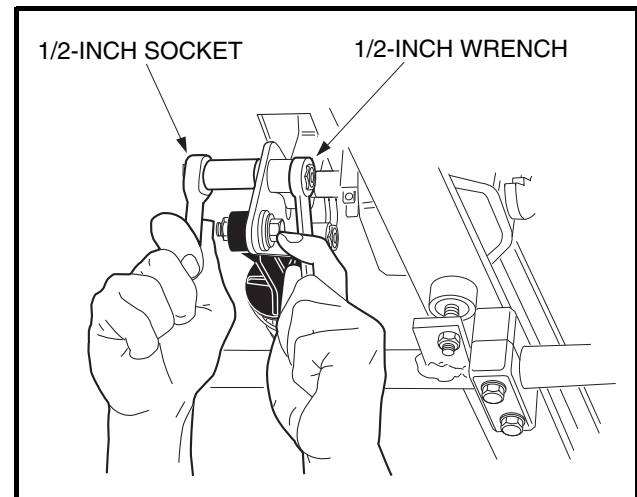
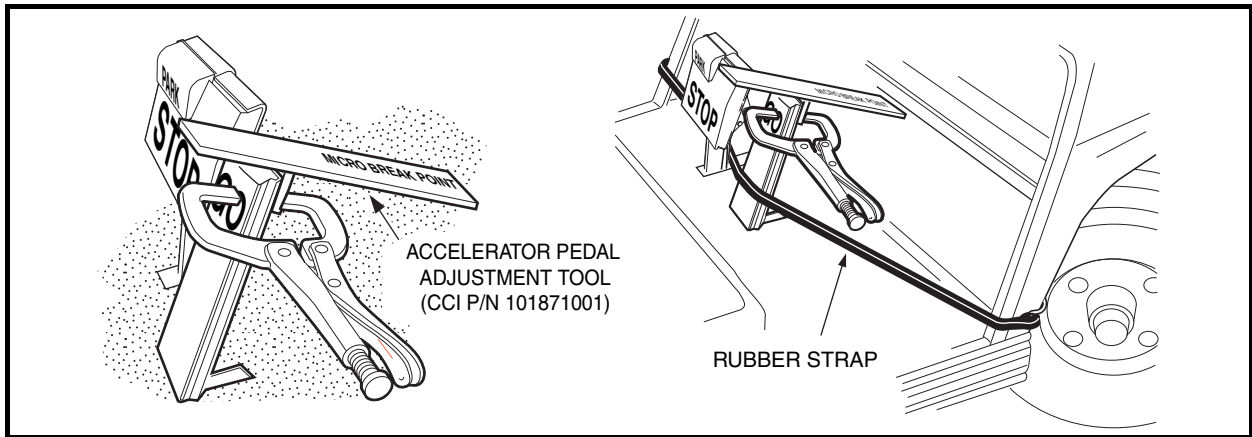

Figure 5-28 Accelerator Pedal Height Adjustment
Figure 5-29 Accelerator Pedal Height Adjustment
- 4.1. Loosen the nut and bolt (**Figure 5-28, Page 5-18**) securing the accelerator pedal to the pivot plate. Clamp the accelerator pedal adjustment tool (CC P/N 101871001) to the accelerator pedal, with the end marked 'accelerator pedal height' closest to the floorboard. Press the accelerator pedal until the end of the tool rests against the floorboard; pedal height should be 5-5/8 inches (14.3 cm). Use a rubber strap to hold pedal in position against the floorboard and then tighten nut to 26 ft-lb (35.3 N·m) (**Figure 5-29, Page 5-19**).